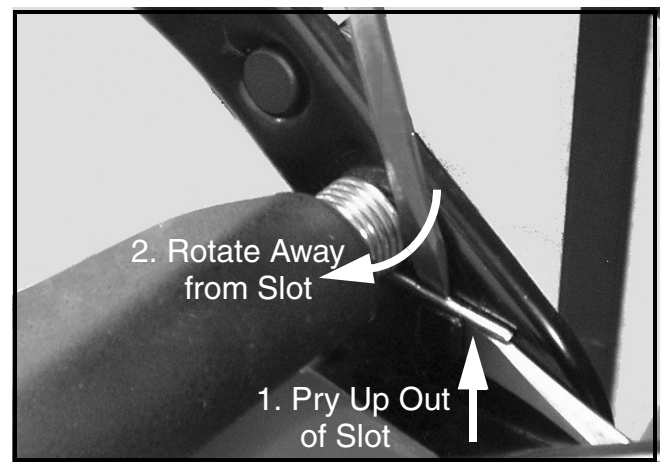

**FIGURE 4**
10. Using a 3/8" socket and ratchet, remove the self-tapping screw, spacer and wave washer (if so equipped) securing the cross bracket to the pivot bracket assembly. See Figure 4.
11. Using a 3/8" socket and ratchet, remove the two self-tapping screws securing the height adjuster spring lever and stop bracket. See Figure 4.
12. Using a T-30 Torx bit and ratchet, remove the two Hi-Lo screws securing the main baffle to the deck. See Figure 4.
17. Using a 3/8" socket and ratchet, remove and discard the two special screws that secure the trail shield to the handle brackets. Discard the trail shield. See Figure 4.
50. Re-install the two Hi-Lo screws, removed in Step 12, to secure the main baffle to the deck at the handle brackets. See Figure 4.